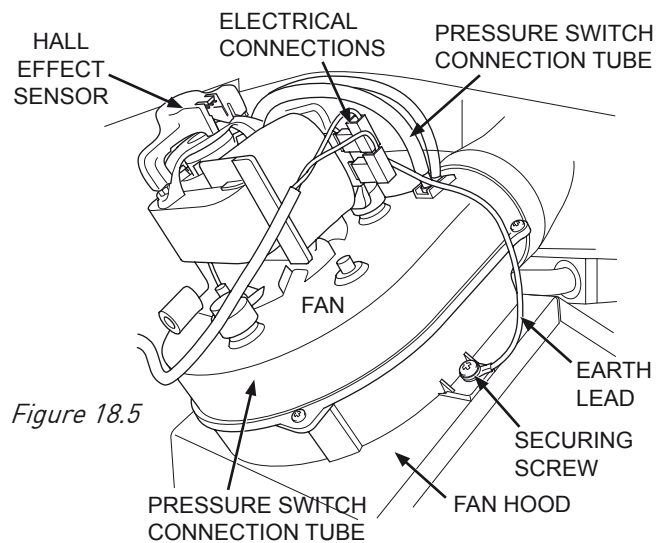

Figure 18.5
18.7 Disconnect the electrical leads and air pressure switch connection tube from the fan, remove the fan screws and withdraw fan from fan hood with its 56° bend. (Figure 18.5)